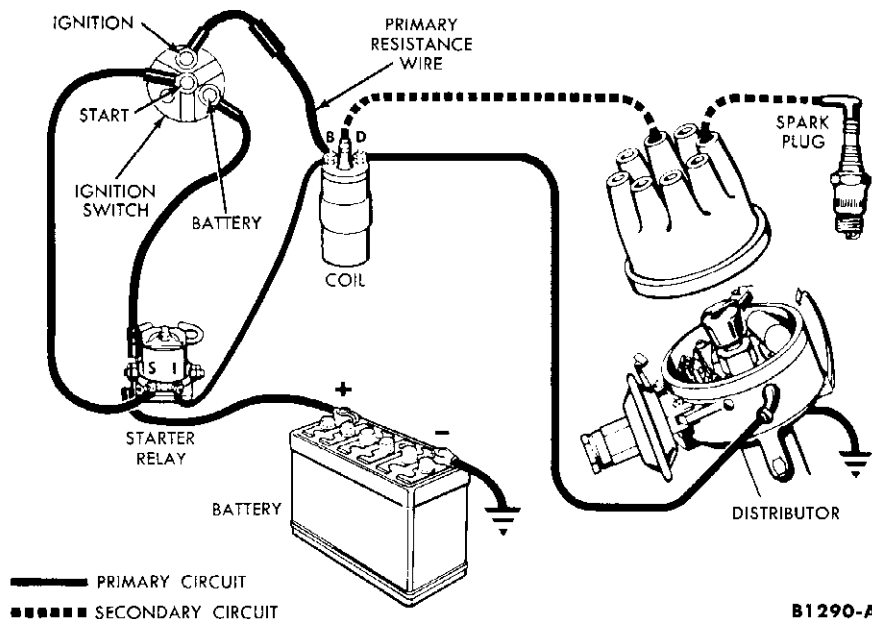

FIG. 1—Ignition Circuit
The ignition system consists of a primary (low voltage) and a secondary (high voltage) circuit (Fig. 1). The battery, ignition switch, primary resistance wire, primary windings of the ignition coil, breaker points, and the condenser are in the primary circuit. When starting the engine, the primary resistance wire is by-passed through a set of contacts in the starter relay. This applies full battery voltage to the coil when starting.
1. Bad connections at any point from the battery to the coil (Fig. 1).